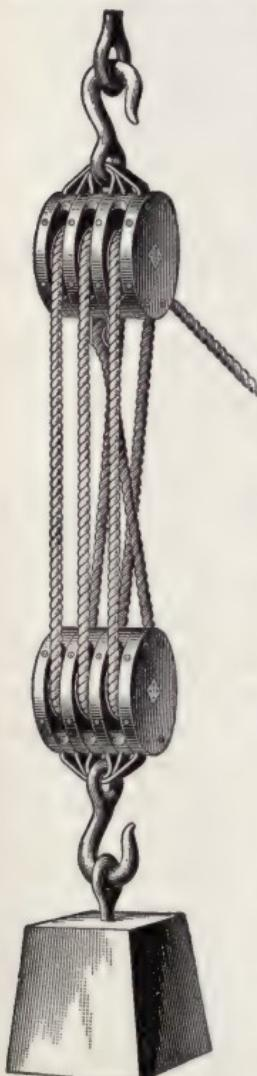

FIG. 31.
**73.** A **combination of pulleys**, as shown in Fig. 31, is sometimes used. In this case there are three movable and three fixed pulleys, and the amount of movement of  $W$ , owing to a certain movement of  $P$ , is readily found.
**EXAMPLE.**—In an ordinary block and tackle having six parts of the rope supporting the load, as shown in Fig. 31, how great a force must actually be applied to raise 2,000 pounds?
**77.** If the free end of the hauling rope passes first around a stationary sheave, as in Fig. 31, it does not make any difference in what direction in the plane of the sheave the rope is pulled. If it passes first around a movable sheave, however, as in Fig. 29, the pull must be exerted in a line parallel to the line of action of the resistance, or a line joining the